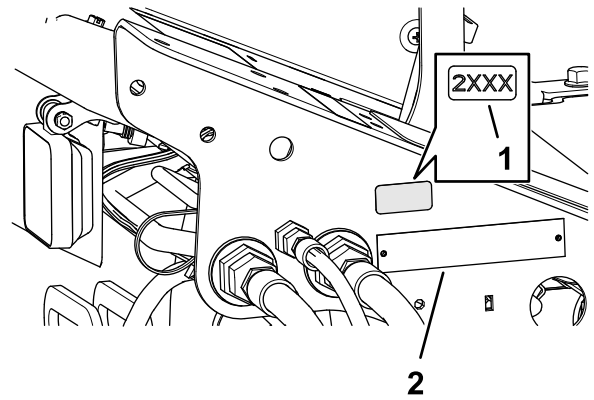

Figure 38
1. Use rubbing alcohol and a clean rag to clean the floor bracket area next to the serial plate, and allow the bracket to dry (Figure 38).